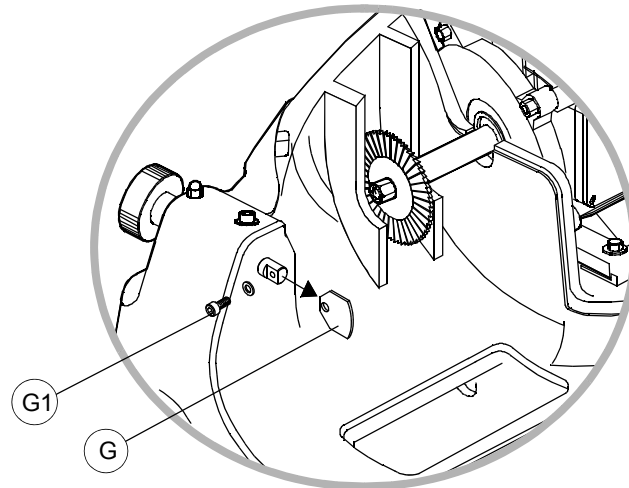

Fig. 17
To replace the tracer point (G), proceed as follows (fig. 17):